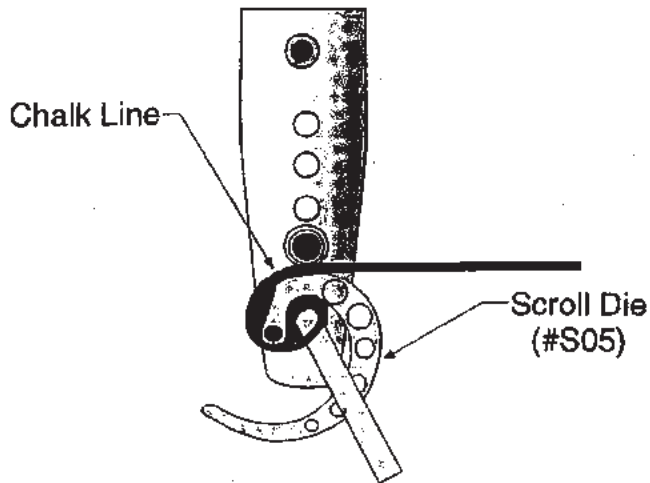

Figure 5 -- Finishing the Scroll
Step 6: Keep turning until your chalk line just touches the SCROLL DIE as shown in Figure 5. Stop bending when your stock reaches the edge of the INNER DIE. If your scroll is not finished, then proceed with Step 7.